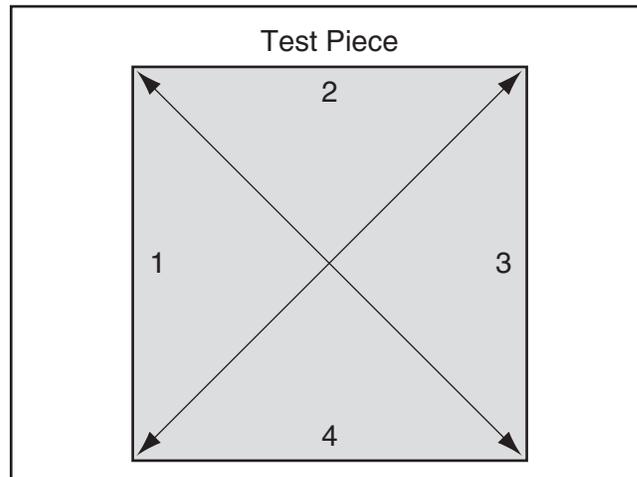

Figure 146. Crosscut fence adjustment test piece.
2. Prepare the test piece by cutting it to a dimension of 32" x 32", then number all four sides, as illustrated in **Figure 146**.
4. Measure the test piece diagonally from corner to corner, as illustrated in **Figure 146**.